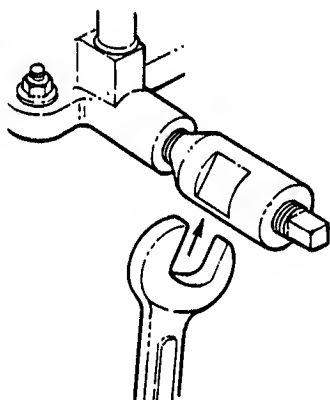

FIGURE 11
2. Hold oil drain tube with wrench as shown in Figure 11.